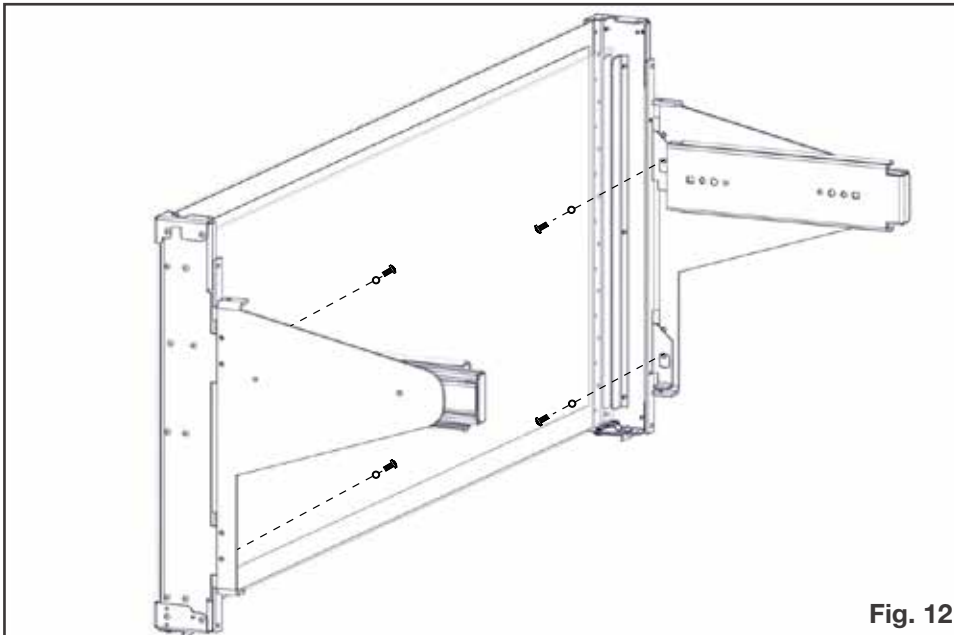

Fig. 12
- Secure TGGA with 1 fastener and 1 washer on top and bottom of each TGGA slider bracket (total of 4) holding the TGGA tight to the TGGA slider bracket surface throughout (**Fig. 12**). Tighten firmly enough to hold TGGA against TGGA slider bracket. Do not fully tighten until adjustment is complete and during final TGGA installation.